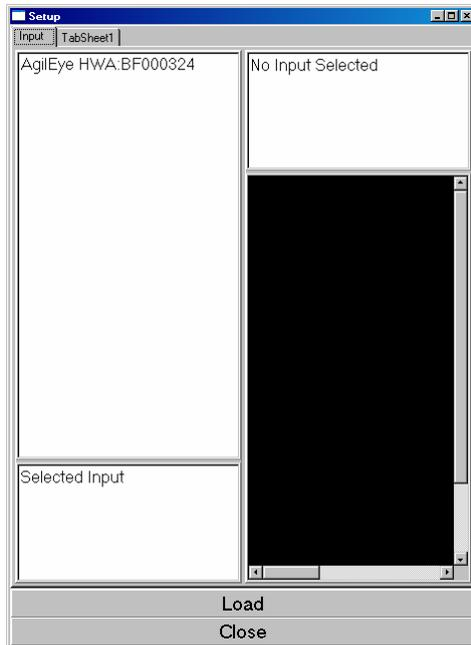

Figure 25. Camera Setup initial view
2. Your first task will be to initialize the camera you wish to use. Select *File->Setup* from the menu bar. The window seen in Figure 25 should pop up.